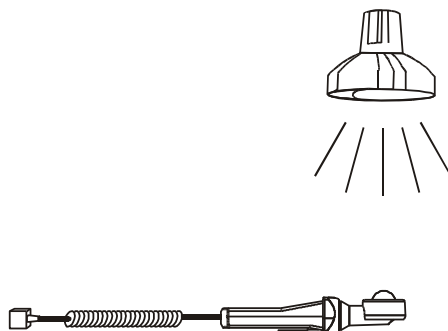

Figure 5.64: LUXmeter probe positioning
- ❑ Take the position of LUXmeter (see *Figure 5.64*). Make sure that LUXmeter is turned on.